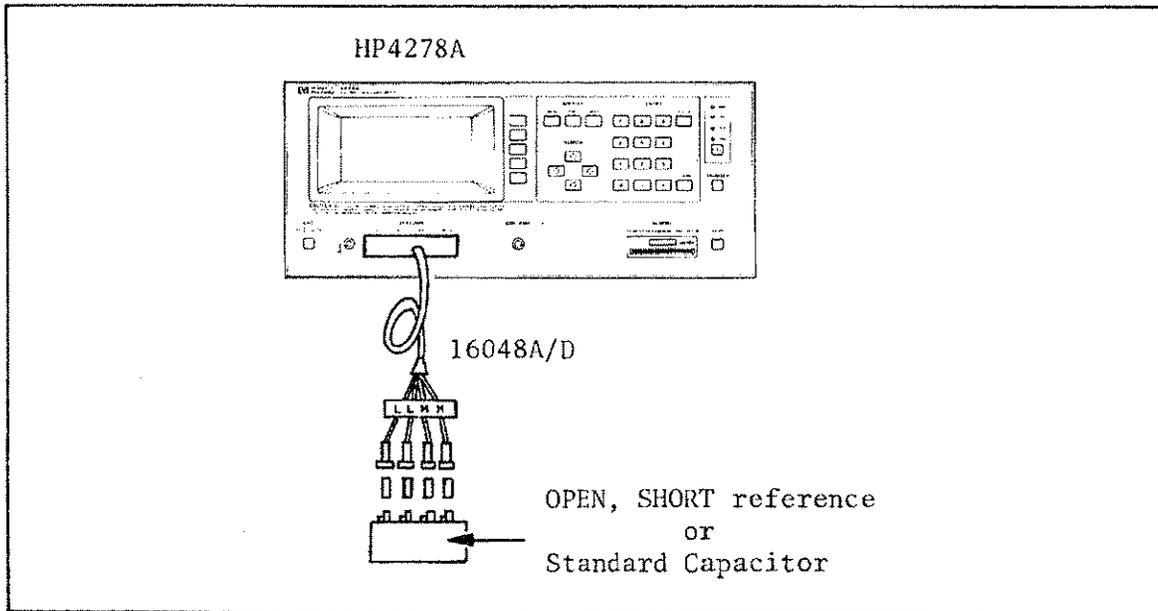

Figure 6-6. 1MHz Capacitance Accuracy Test Setup 2
26. Disconnect the 10pF standard capacitor, and connect the OPEN reference using the 16048A test leads as shown in Figure 6-6.